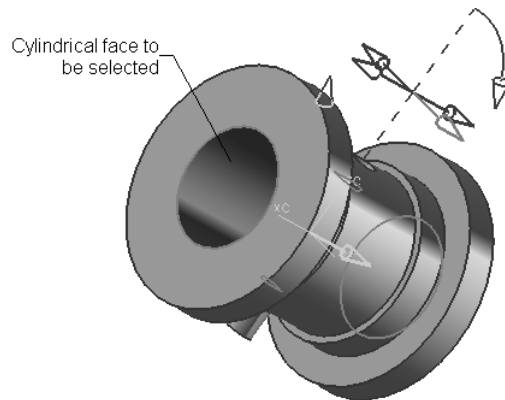

Figure 8-75 Cylindrical face from the Brasses to be selected
- d. Insert the Brasses in the assembly window and apply the required assembly constraints to make it a fully constrained part, refer to Figures 8-75 through 8-81.
7. Select the cylindrical face from Brasses, as shown in Figure 8-75, and then select the cylindrical face from the Casting, as shown in Figure 8-76.